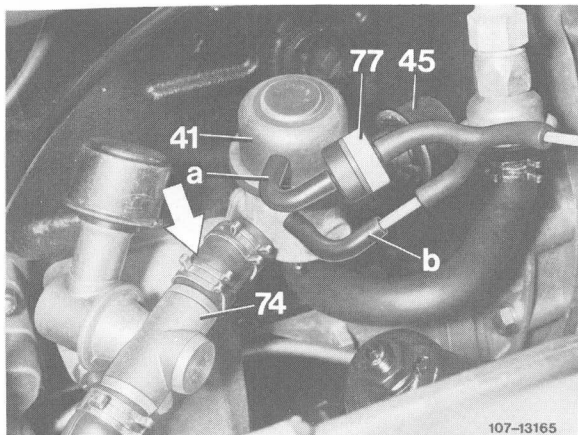

Fig. 56
Connect CO tester. Disconnect the upper vacuum line (a) from anti-backfire valve (Fig. 56).
Reconnect the vacuum line to the anti-backfire valve. Remove silencer (air filter for noise suppression) (45) from anti-backfire valve (41) (Fig. 56). Hold your hand in front of the air hose and accelerate briefly to full throttle.